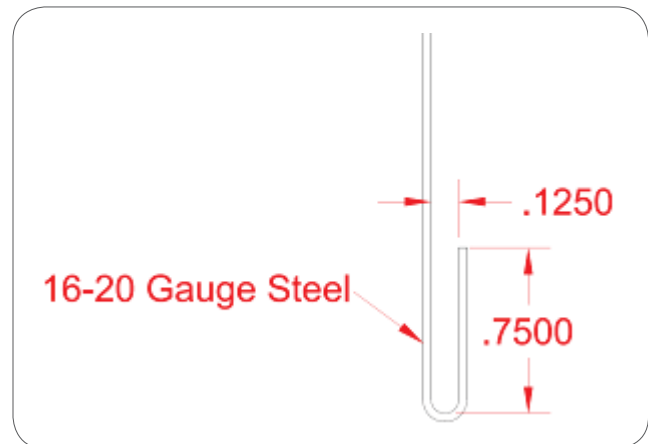

Figure 1.2
3. Hem metal inlet according to Figure 1.2.